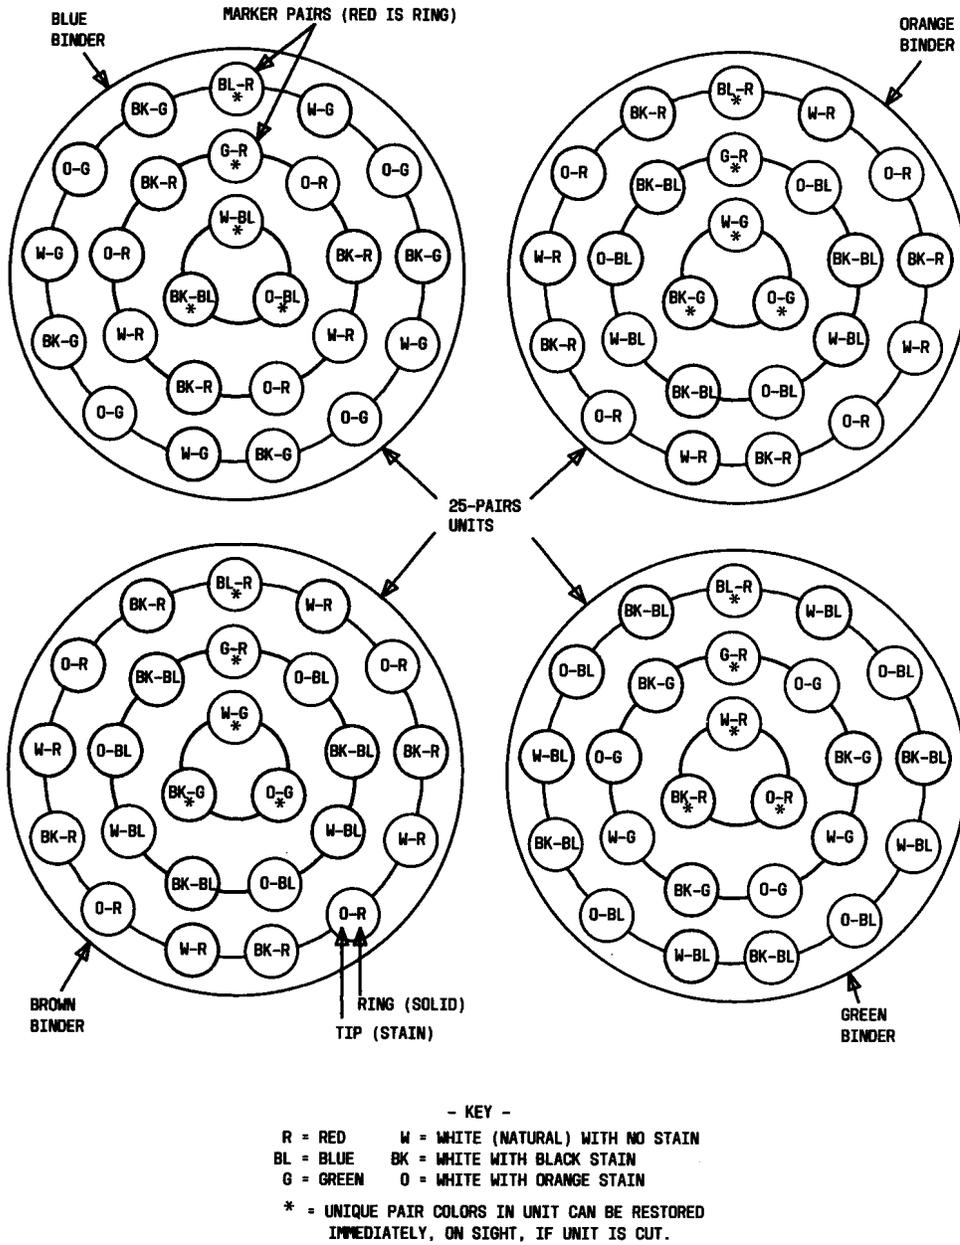
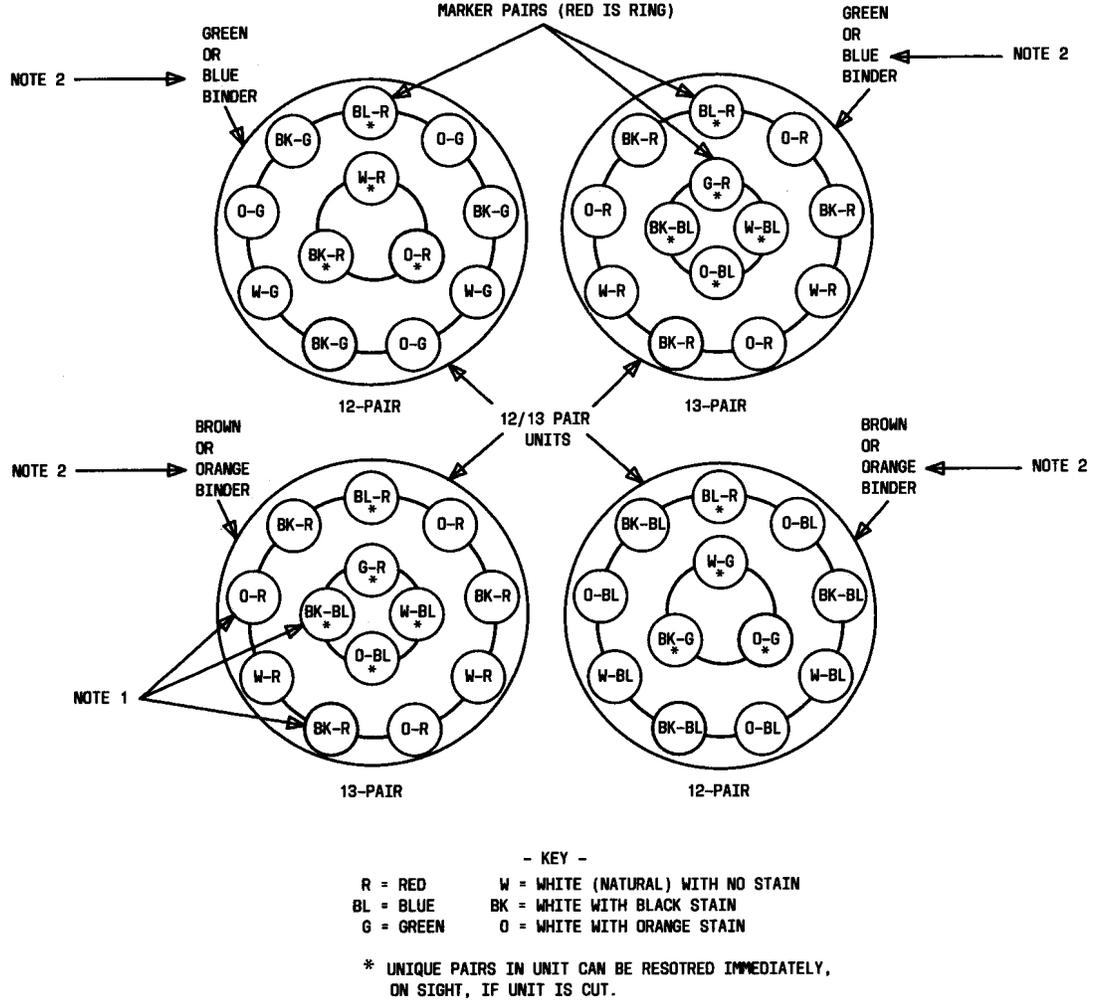

Fig. 3—Pair Lay-Up of 100-Pair Multiunit (MUP Design)
Fig. 4—Pair Lay-Up of CDM and CDT 50-Pair Multiunit (MUP Design)
2.09 There is only one pair lay-up for 100-pair multiunits (Fig. 3) and one for 50-pair multiunits (Fig. 4). These multiunits cannot be distinguished by the ring color of an outer layer of pairs as in AD-type, pulp insulated cables. In MUP cable, multiunit identification is provided as follows.